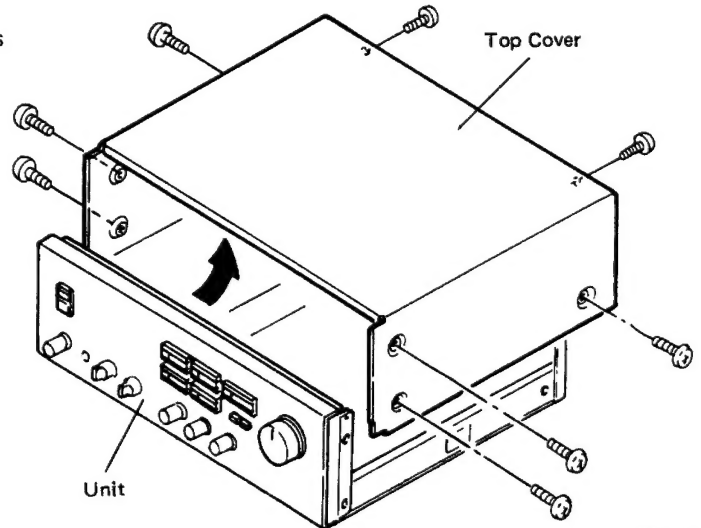

Fig. 2
- Remove 8 screws and detach the top cover as per arrow in Fig. 2.